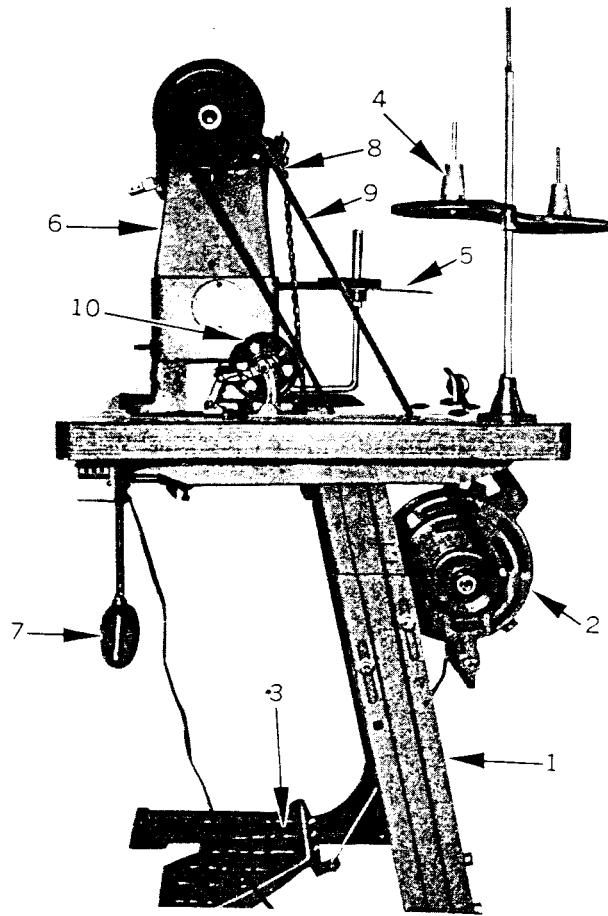

Fig. 1
SETTING UP THE MACHINE (Fig. 1)
1. Push a bobbin on the bobbin winder spindle (1) as far as it will go.
2. Pass the thread from the thread stand downward through the eye (6) in the tension bracket, then between and around the back of the tension disc.
4. Push the lever (3) so that the pulley (2) and V belt (9, Fig. 1) will engage and then start the machine.
5. The pulley (2) will automatically be free from the belt and stopped after the bobbin is filled with thread.